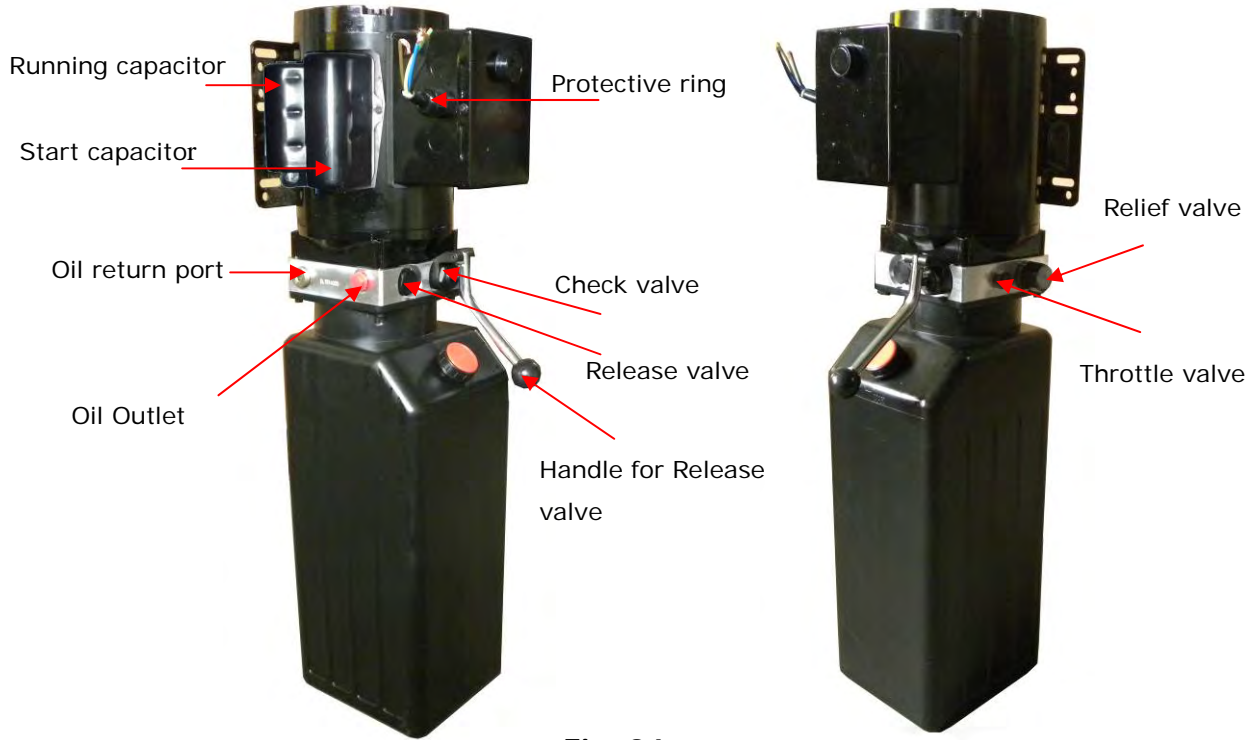

Fig. 34
b. ATLAS manual power unit, 220V/50HZ, Single phase (See Fig. 34)